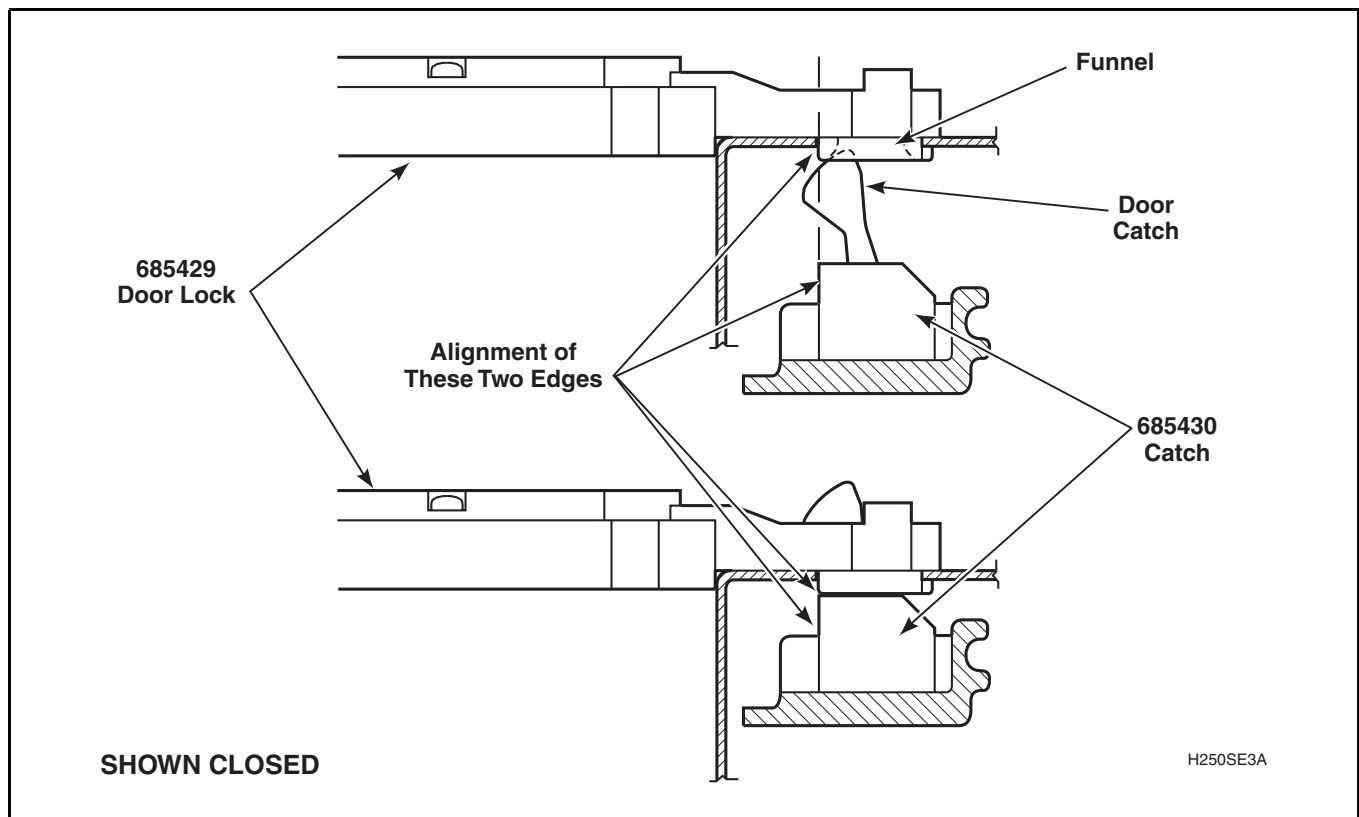

Figure 32
- Adjust door catch so the outside edge is aligned with the edge of the latch. Refer to *Figure 32*.
- Visually check that the door catch properly engages the funnel of the door latch/switch assembly. Refer to *Figure 32*.